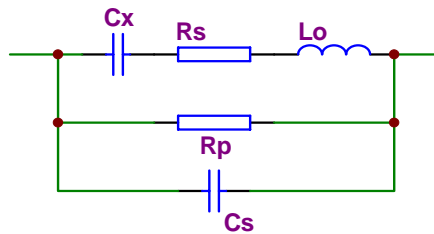

Figure 2-1. Equivalent circuit of an actual capacitor
- a) We can select the circuit mode according to the variation of D at two different frequencies. If the dissipation factor of a capacitor increases with the increase of the test frequency, series circuit mode should be selected. If the dissipation factor decreases with the increase of the test frequency, parallel circuit should be used. For inductor, the situation is just in the opposite side. In fact, D is impossible in direct ratio with the test frequency. From Figure 2-1, we can find that Rp and Rs exist at the same time. If Rs is more significant than Rp, series mode is selected; If Rp is more significant than Rs, parallel mode is more suitable.